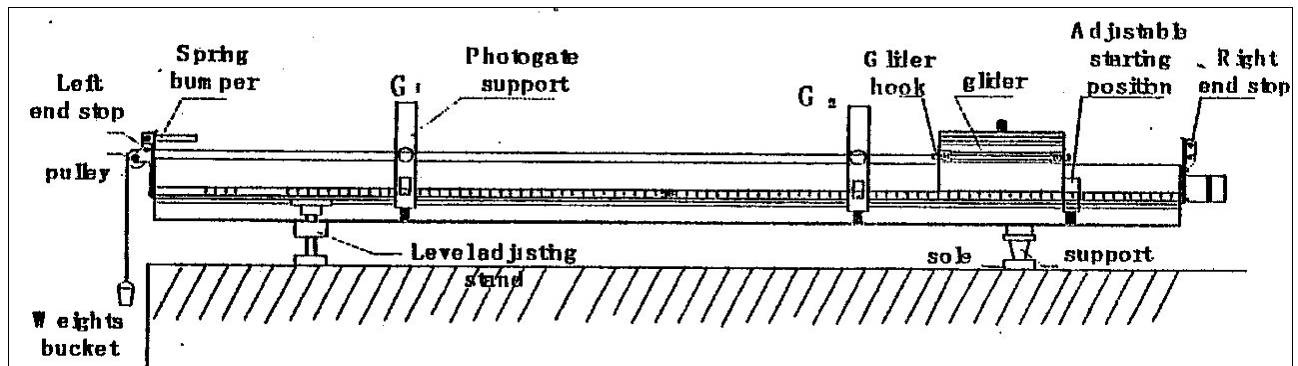

Figure 4.3: Newton's Second Law of Motion
- Step 1: Set up the apparatus as shown in Figure 4.3. Position the track so that the end opposite the air supply extends slightly beyond the edge of the table. Level the track as described in paragraph 3.3. Install the starting position bracket at a convenient position at the air-supply end stop. Install a spring bumper on the bracket on the opposite end stop. Install two photogates at about the 30cm and 90cm positions.